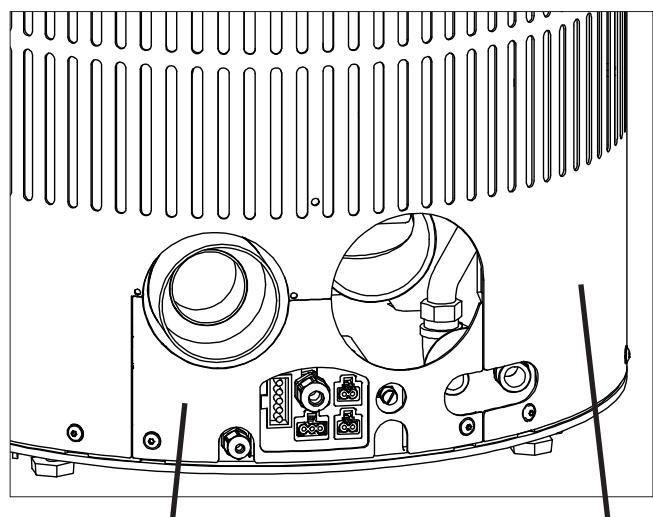

Fig.2a Panel Lower rear wall
- Dismount the lower rear wall and panel (Fig.2a)